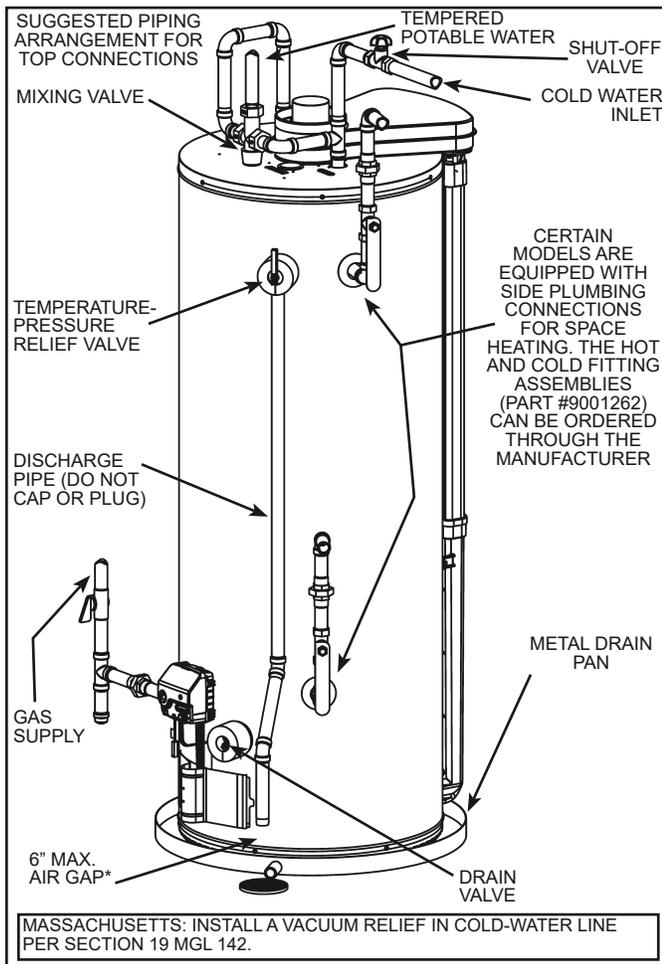

Figure 8
Models equipped with Combo Heating capabilities are shipped with the two side plumbing taps **OPEN** (items 5 and 8 in Figure 1 and see also Figure 8). If the heater is to be operated without using the side taps, these openings **must be closed** with the two pipe plugs supplied with the heaters.
Some people are more likely to be permanently injured by hot water than others. These include the elderly, children, the infirm and the physically/mentally disabled. Table 1 (published by U.S. Government Memorandum, 1978) shows the approximate time-to-burn relationship for normal adult skin. If anyone using hot water provided by the water heater being installed fits into one of these groups or if there is a local code or state law requiring a certain water temperature at the point of use, then special precautions must be taken (see Figure 8).